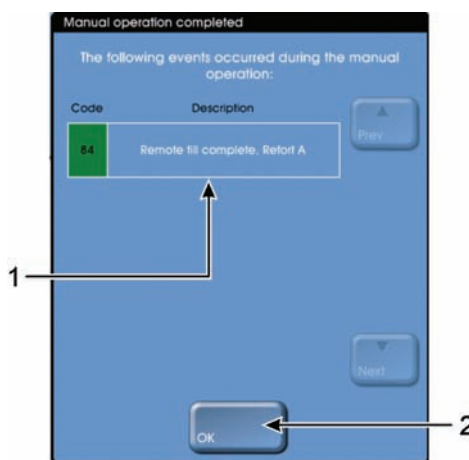

Figure 115: Event dialog box with fill complete event (1) and OK button (2)
10. When the fill completes, a momentary alarm will normally sound and an event dialog box will indicate a "Remote fill complete" event (see Figure 115).
11. Select the **OK** button from the dialog box to complete this procedure (see Figure 115).